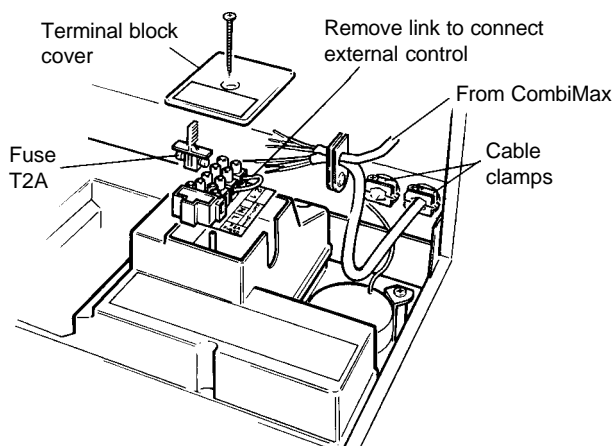

Fig. 11
2. Remove the screw securing the terminal block cover from the back of the boiler control box as shown in Fig. 11. Route the cable provided from the CombiMax terminal block to the boiler (see Figs. 9 and 10) and connect to the boiler terminal block via the grommet as shown in Fig. 11. Refer to section 2.4 for connection details.